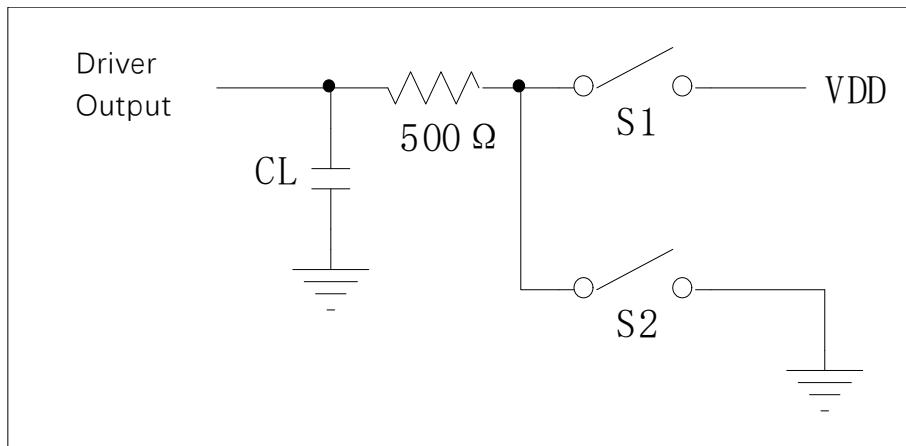

Figure 3 Driver Enable/Invalid Timing Test Circuit
- (3) Test circuit is shown in Figure 3